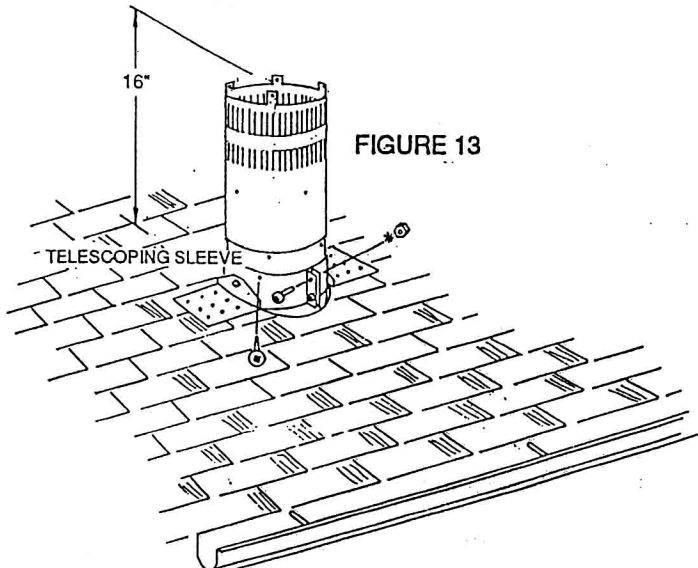

FIGURE 13
4. Attach the telescoping sleeve to the air terminal and secure using the 3 screws provided (Fig. 13). Slip an 8" diameter length of aluminum flexible liner a minimum of 2 inches over the outer sleeve of the air terminal. Secure to the sleeve using 3 screws and flat washers. Seal the joint and screw heads using the high temperature sealant (Fig. 10).
5. Thread the air terminal assembly liner down through the roof support, clamping the support to the air terminal (Do not clamp the flexible aluminum liner). Fasten the air terminal to the roof support using the screws provided. The air terminal must be located plumb, a minimum of 16" vertically above the point where it penetrates the roof (Fig. 13).